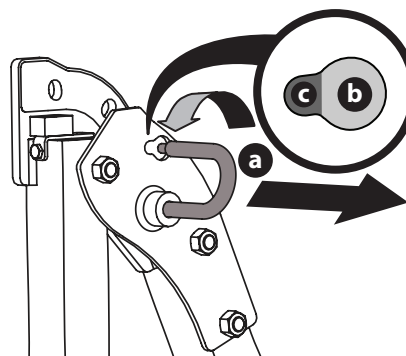

Fig. 24
- To change the position of the ROPS, pull slightly up/push forward on the upper ROPS to relieve any tension on the locking pin (a) and rotate the locking pin (a) from the LOCKED (b) position into the ADJUSTMENT (c) position. Repeat the procedure for the locking pin on the opposite side (Fig. 24).